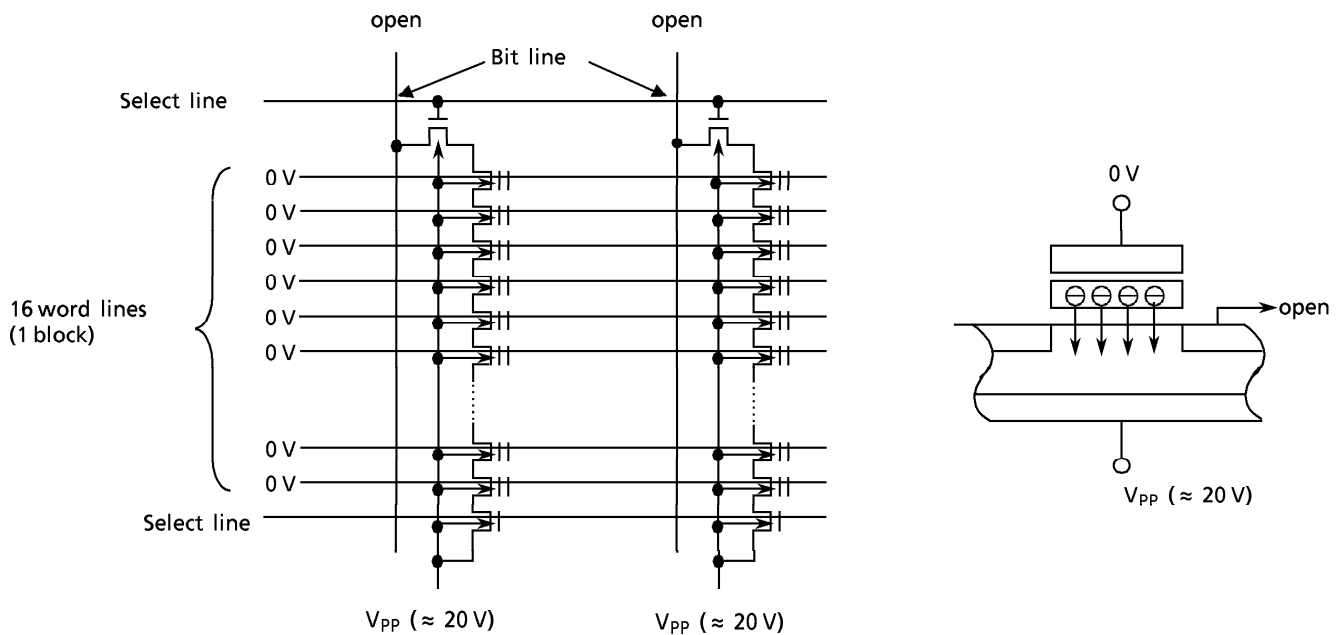

Figure 18. TC5816 Erase Device Physics
- (1) A high level is applied to Select line 1 and a low level is applied to Select line 2 so that the device is connected to the Bit line and disconnected from the ground line.
- (2) V_{PP} ($\approx 20\text{ V}$) is applied to the selected word line and an inhibit voltage of V_{PI} ($\approx 10\text{ V}$) is applied to the unselected word lines.
- (3) 0 volts is applied to the bit line tied to cell transistor TR1 and the inhibit voltage $VDPI$ ($\approx 10\text{ V}$) is applied to the bit line tied to TR2.
- (4) V_{PP} is applied between the control gate and the channel in TR1, as shown in Figure 18, which causes electrons to be injected from the channel to the floating gate by a tunneling mechanism.
- (5) The injected electrons are captured in the floating gate surrounded by an oxide layer and will remain, even after power is cut off, until they are removed by an Erase operation.
- (6) Although 20 volts is applied to the control gate of TR2, the voltage difference between the control gate and the channel is only 10 V because the voltage of the channel is 10 V. Therefore, tunneling does not take place (i.e. the electron is not injected into the floating gate.)
- (7) Tunneling does not take place in the unselected pages because of the 10 V (V_{PI}) applied to the unselected word lines which makes the voltage difference between the control gate and channel only 10 volts.
Figure 18 shows the NAND memory cell level details of the Erase mechanism. The Erase operation is used to turn the “0” (programmed) cells back to “1” in a block. The captured electrons are pulled out from the floating gate to the substrate by a tunneling mechanism. 0 volts is applied to the control gate and V_{pp} (≈ 20 V) is applied to the substrate so that a 20-volt potential is created and the electrons in the floating gate are pulled out by the tunneling mechanism.